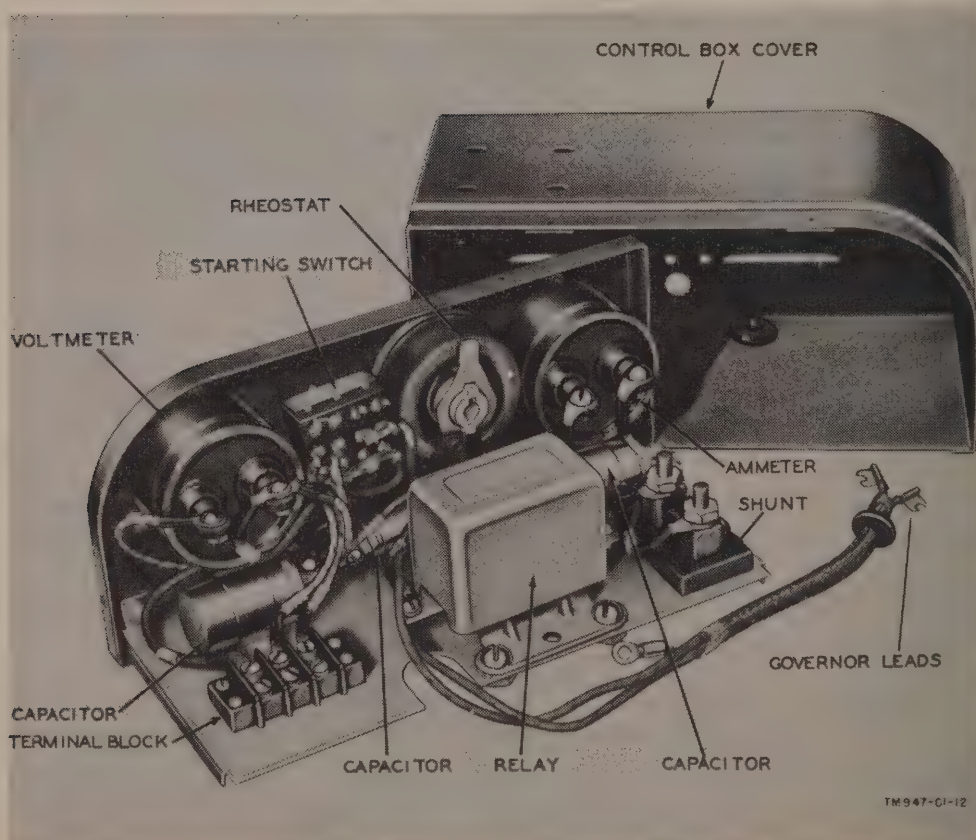

Figure 50.1. Power Unit PE-210-B, Generator Control C-890/U.
79. Generator Control C-890/U (fig. 50.1)
Page 82. Fig. 50. Insert figure 50.1 after figure 50.